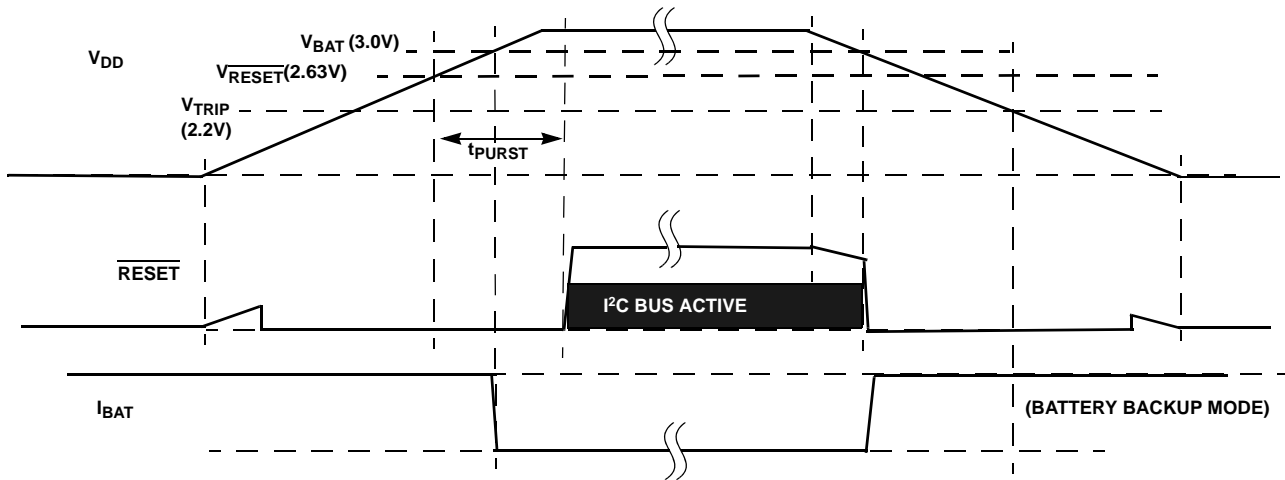

FIGURE 30. RESET OPERATION IN MODE D
- Mode D - In this mode, the selection bits indicate switchover to battery backup at  $V_{DD} < V_{BAT}$ , and no I2C communications in battery backup. This mode is unique in that there is I2C communication as long as VDD is higher than V $\overline{\text{RESET}}$  or VBAT, whichever is greater. This mode is the safest for guaranteeing I2C communications only when there is a Valid VDD (see Figure 30).